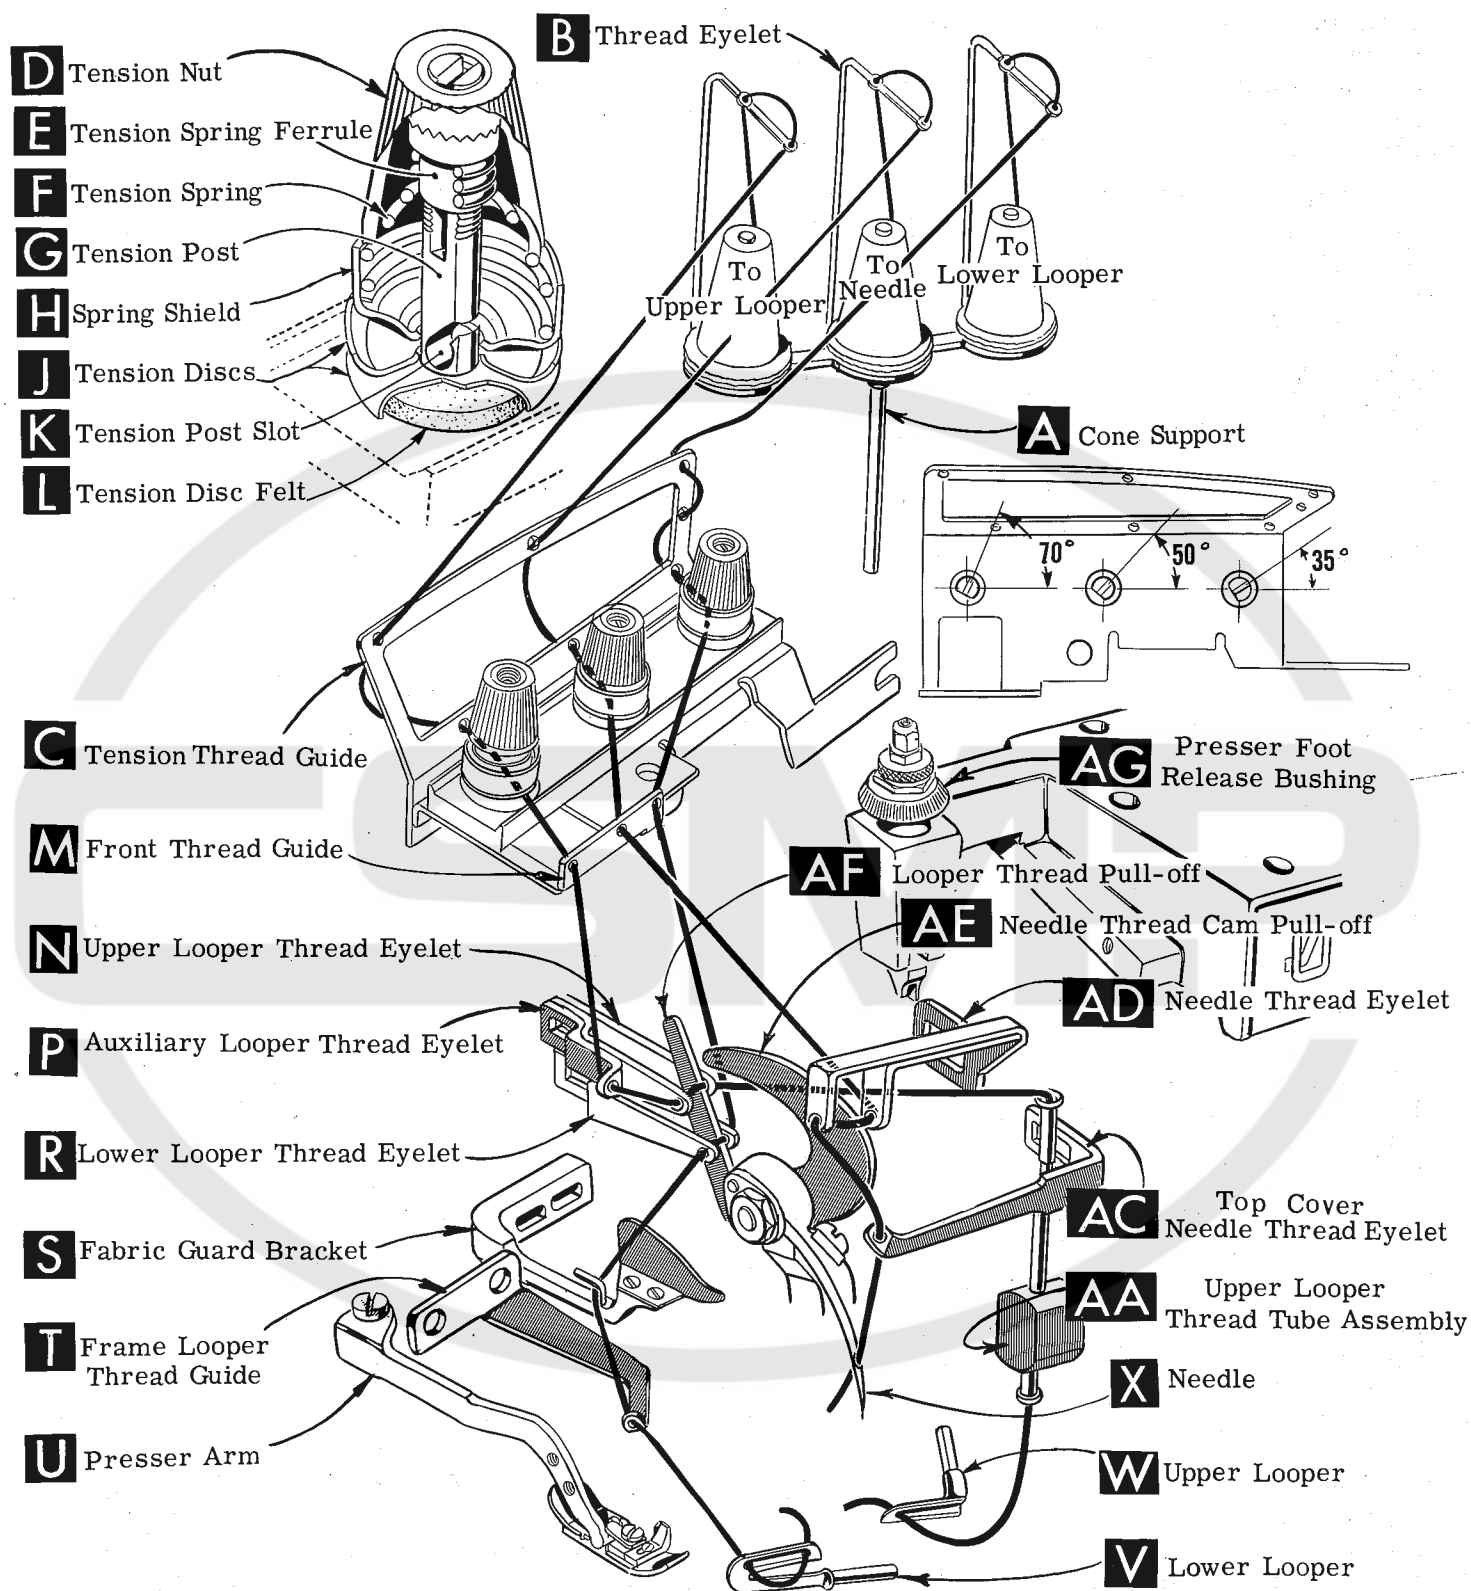
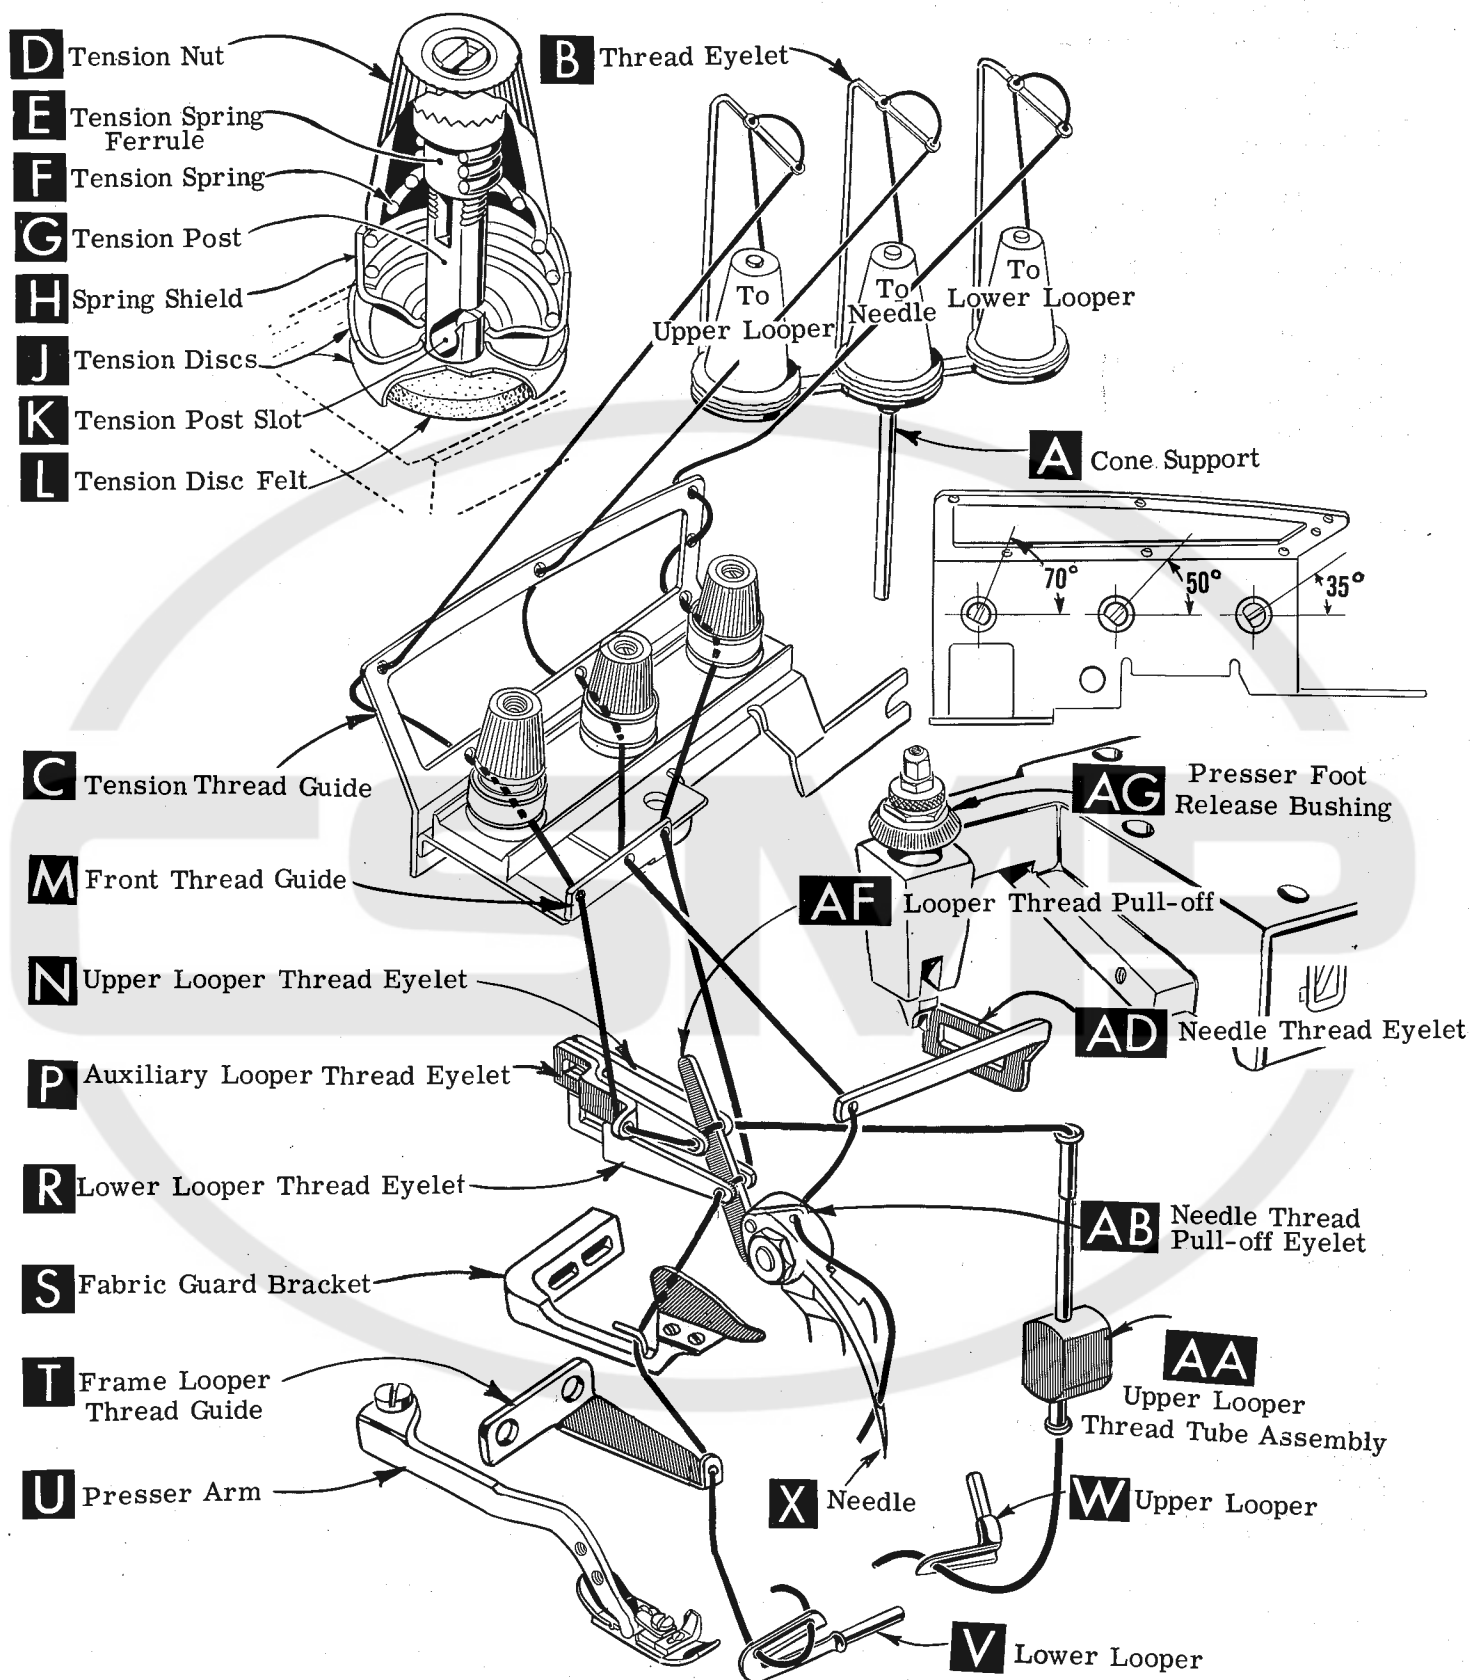

Fig. 1
Fig. 1A
Release pressure on presser foot by turning presser foot release bushing (AG, Fig. 1 or 1A) and swing presser arm (U) out of position. Turn handwheel in operating direction until needle is at its lowest point of travel. Using hexagonal socket wrench No. 21388 AU, furnished with machine, loosen needle clamp nut about 1/4 turn. Again turn handwheel until needle is at high position; withdraw needle.
After thread comes from cones on cone support (A, Fig. 1 or 1A), it is brought up through back hole of thread eyelet (B), then down through the front hole of thread eyelet. Next it is threaded through the upper holes of tension thread guide (C) from front to back and then through the lower holes from back to front. It should be noted that the lower looper thread is threaded through the tension thread guide (C), first through the upper hole back to front, second through the middle hole front to back and third through the lower hole back to front. All threads then continue between the tension discs (J), through tension post slot (K) in tension post (G) and on through front thread guide (M).
Only parts involved in threading are shown in threading diagrams (Fig. 1 and 1A). Parts are placed in their relative positions for clarity.
The threading of the upper and lower loopers are the same for both Fig. 1 and Fig. 1A, the only difference will be in threading the needle, which will be explained under paragraph "To Thread The Needle".
Thread lower looper thread through right eyelet of front thread guide (M). Then double end of thread and lead it through both eyes of lower looper thread eyelet (R, Fig. 1 or 1A) from right to left. Note: thread must pass in front of looper thread pull-off (AF). Lead thread behind fabric guard (S) and through eyelet hole of frame looper thread guide (T). Turn handwheel in operating direction until heel of lower looper (V) is all the way to the left; then thread through both eyes from left to right. Left eye of lower looper can be threaded easily if tweezers are in left hand.
Thread needle thread through middle eyelet of front thread guide (M). Then turn handwheel in operating direction until needle (X, Fig. 1) is at its highest position. Insert needle thread from right to left, through both eyes of needle thread eyelet (AD), under neck of top cover casting; then down through hole in top cover needle thread eyelet (AC). Thread needle from front.
Thread needle thread through middle eyelet of front thread guide (M). Then turn handwheel in operating direction until needle (X, Fig. 1A) is at its highest position. Insert needle thread from back to front of needle thread eyelet (AD), under neck of top cover casting; then through needle thread pull-off eyelet (AB) from right to left. Thread needle from front.
The amount of tension on needle and looper threads is regulated by the tension nuts (D, Fig. 1 and 1A). Tension on threads should be only enough to secure proper stitch formation.